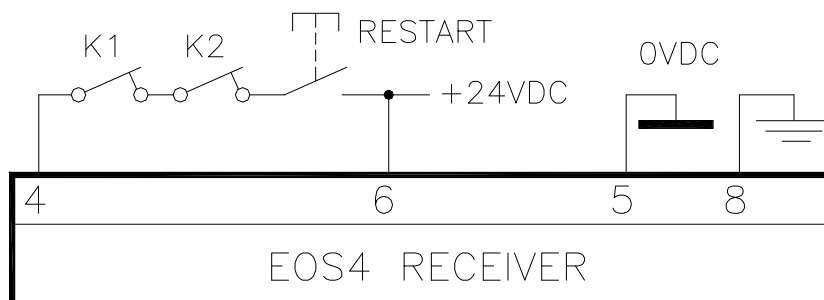

Figure 20 – Manual with K1K2 feedback
- ⚠ In the case of manual operation, the RESTART button in series with the NC contacts (feedback) of the external contactors K1/K2 (Figure 20) must also be present.